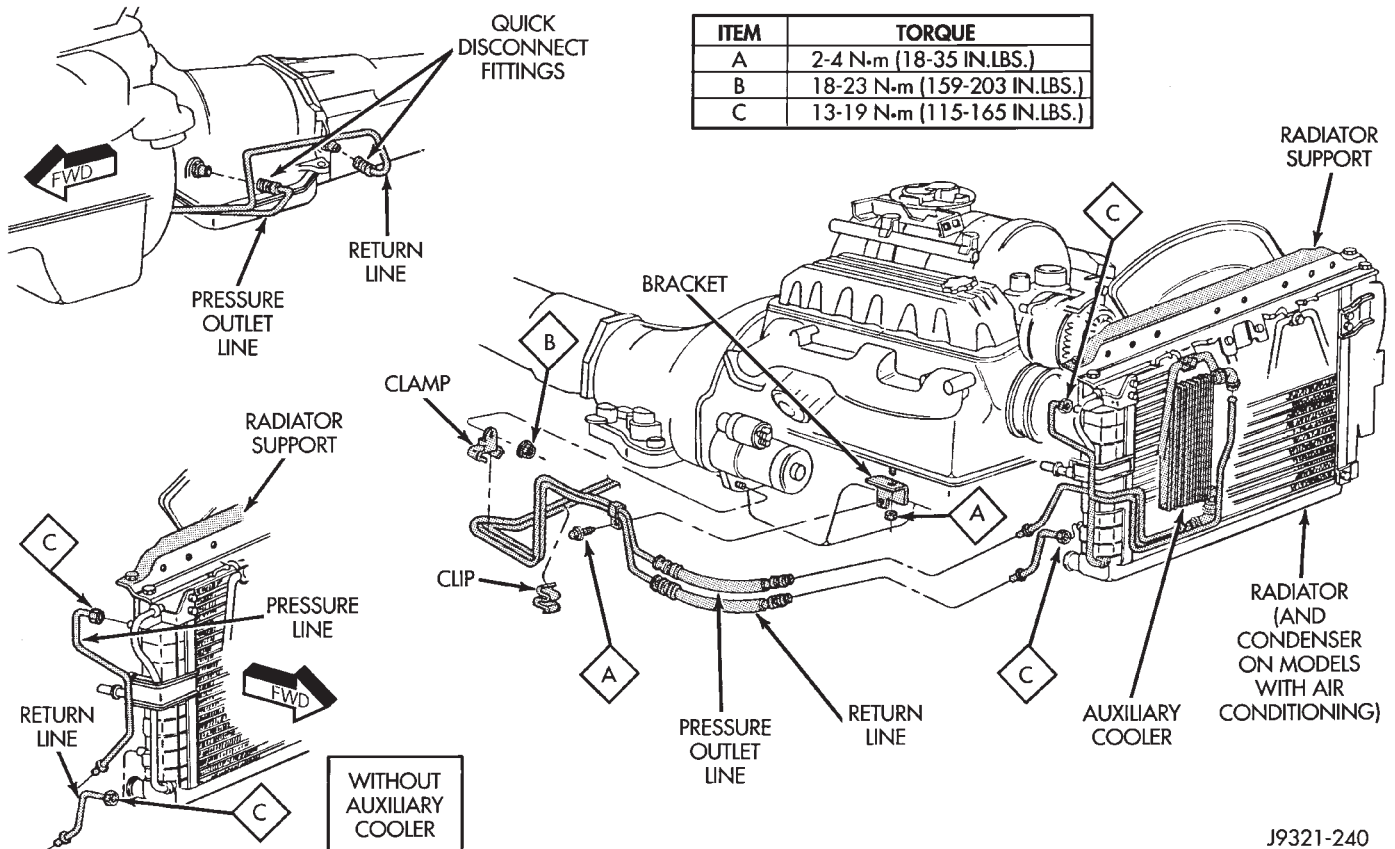

Fig. 26 Transmission Cooler Line Identification
- (1) Identify and disconnect cooler pressure and return lines at transmission. Rear line is return line from cooler. Front line is pressure line to cooler (Fig. 26).
- (2) Position drain pan under cooler pressure line to catch material flushed through cooler and lines.
- (3) Reverse flush cooler using hand operated suction gun filled with mineral spirits. Insert gun nozzle (or